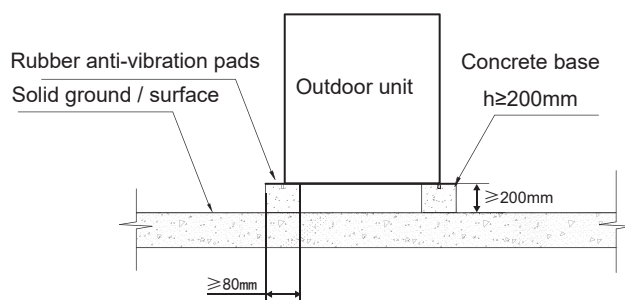

Fig. 6-5 Front view of base structure
- 4) A typical concrete base design is shown in Fig. 6-5. A typical concrete specification is 1 part cement, 2 parts sand and 4 parts crushed stone with steel reinforcing bar. The edges of the base should be chamfered